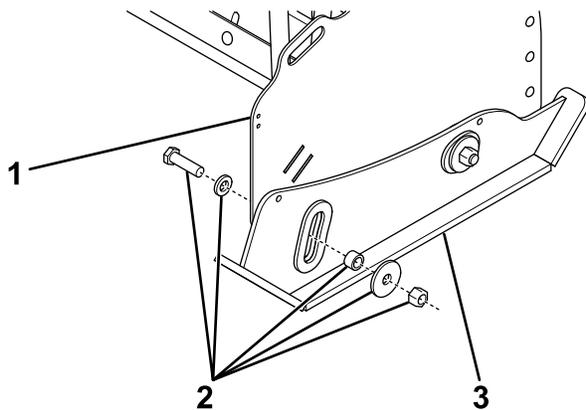

Figure 1
2. Remove and retain the fasteners securing the front of the plow wing shoe to the plow (Figure 1).